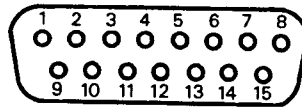

Figure 2-2. "D" Type Connector Pin Arrangement
To insure proper operation, the FMA-8500 must be connected as shown in Figure 2-2. The following minimum electrical connections must be made for new installations: Chassis Ground; 0-5 Volt Signal Common; 0-5 Volt Signal Output; +15 VDC Supply; -15 VDC Supply.
1. Properly connect the mass flowmeter to a ± 15 VDC power supply, and connect an output signal readout device ($4\frac{1}{2}$ digit voltmeter recommended) to terminals 2 and 3 (D-type pins 2 and 10). Refer to Figure 2-2. Apply power, and allow the flowmeter to warm up for 45 minutes. Do not connect to a gas source at this time. Observe the output signal and if necessary, perform the zero adjustment procedure (Section 3.3). If the output signal will not zero properly, refer to the sensor troubleshooting section and check the sensor. If the sensor is electrically functional, the printed circuit board is defective and will require replacement.